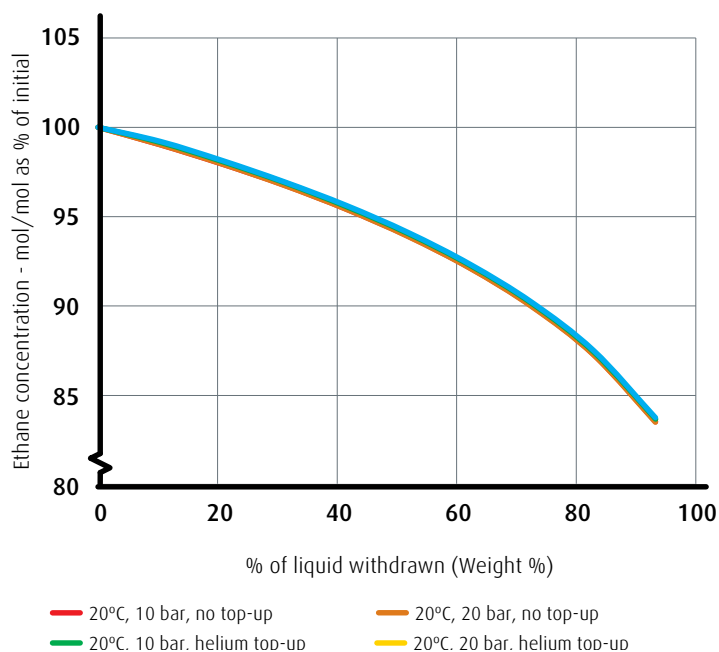

Figure 3: Ethane liquid phase concentrations during cylinder use – top up of pressure
However, figure 3 shows that there is no change in ethane concentration with different pressures, either with changing starting pressure, or with modifying the pressure during usage. Again, this is because vapour pressure of each component does not change with total pressure. However, there may be other reasons to maintain constant overpressure during cylinder usage, such as for increased repeatability during gas chromatography (GC) analysis.